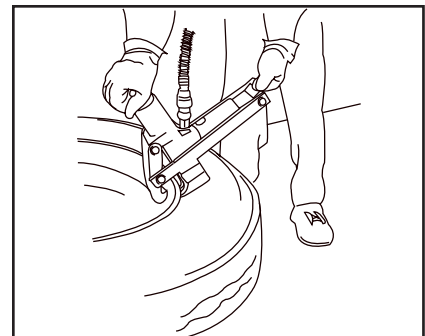

Figure 3
1. Run the air hydraulic pump so that the clamping jaw begins to tighten against the rim. (See Fig. 3.) Make sure the wedge-shaped teeth are placed well into the tire bead and against the rim flange.